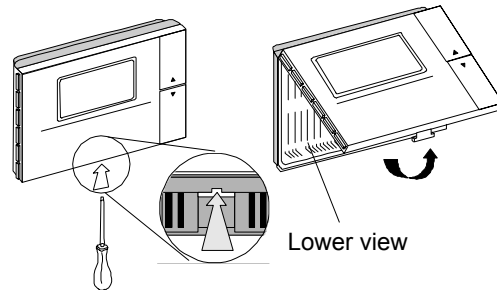

Fig. 8.1
1. Divide the top part of the instrument from the bottom part using a screwdriver as shown in Fig. 8.1.